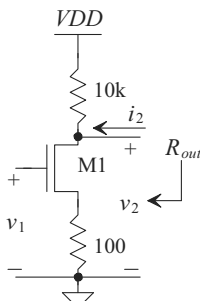

Figure 31.63 Common-source amplifier with source degeneration.
- 31.25** Notice that the amplifier shown in Fig. 31.63 is a simple common source amplifier with source resistance. Explain how this is actually a very simple feedback amplifier and determine the type of feedback used. Determine A_{OL} and β .